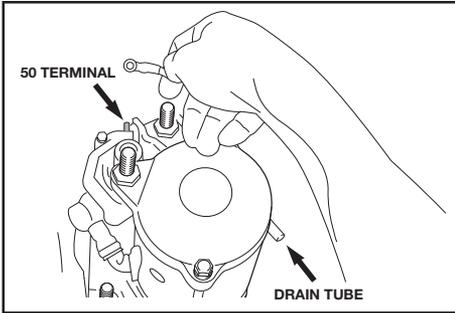

Fig. 6
1. Connect the key switch (50 terminal) to the 50 terminal stud on top of the solenoid (See Fig. 6). Note position of the drain tube.